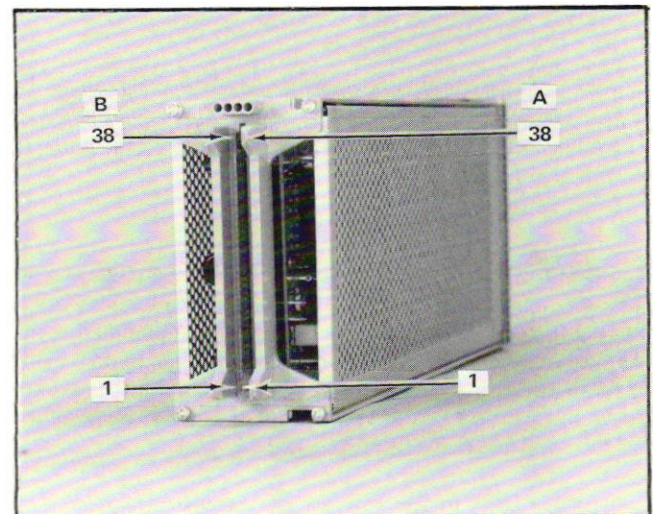

Fig. 3-1. Location of pins on Interface connector.
**Interface Connector Pin Locations.** The Interface circuit board couples the 7B92 to the associated oscilloscope. Fig. 3-1 illustrates the locations of pins on the interface connector as shown on the Voltage Distribution and Output Connectors schematic in the diagrams section.